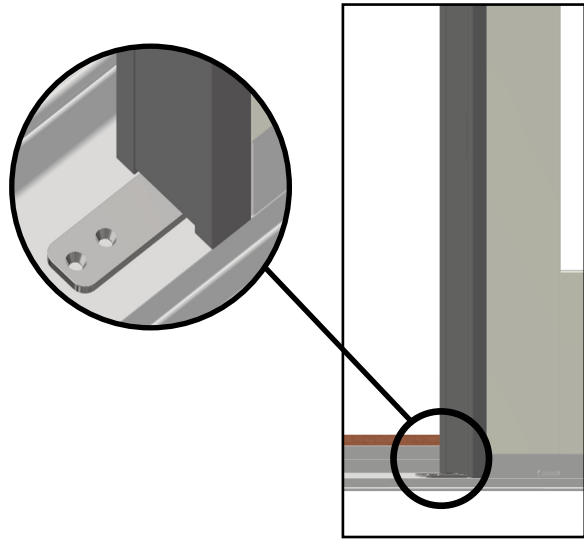

Figure 5
6. Apply the fastener cover using a wood block and hammer. Make sure cover flush on the sill clip. (Fig. 5)